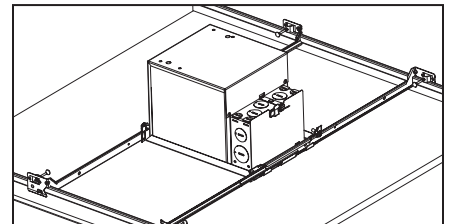
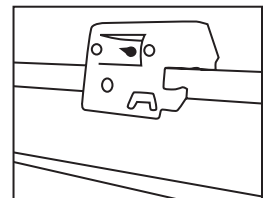

Figure 6
Figure 7
**Step 3.** Place fixture into position and snap bar hanger foot with integral T-bar notch onto T-bars (Fig. 6). Additional holes are provided for securing with wire or screws if desired (Fig. 7).